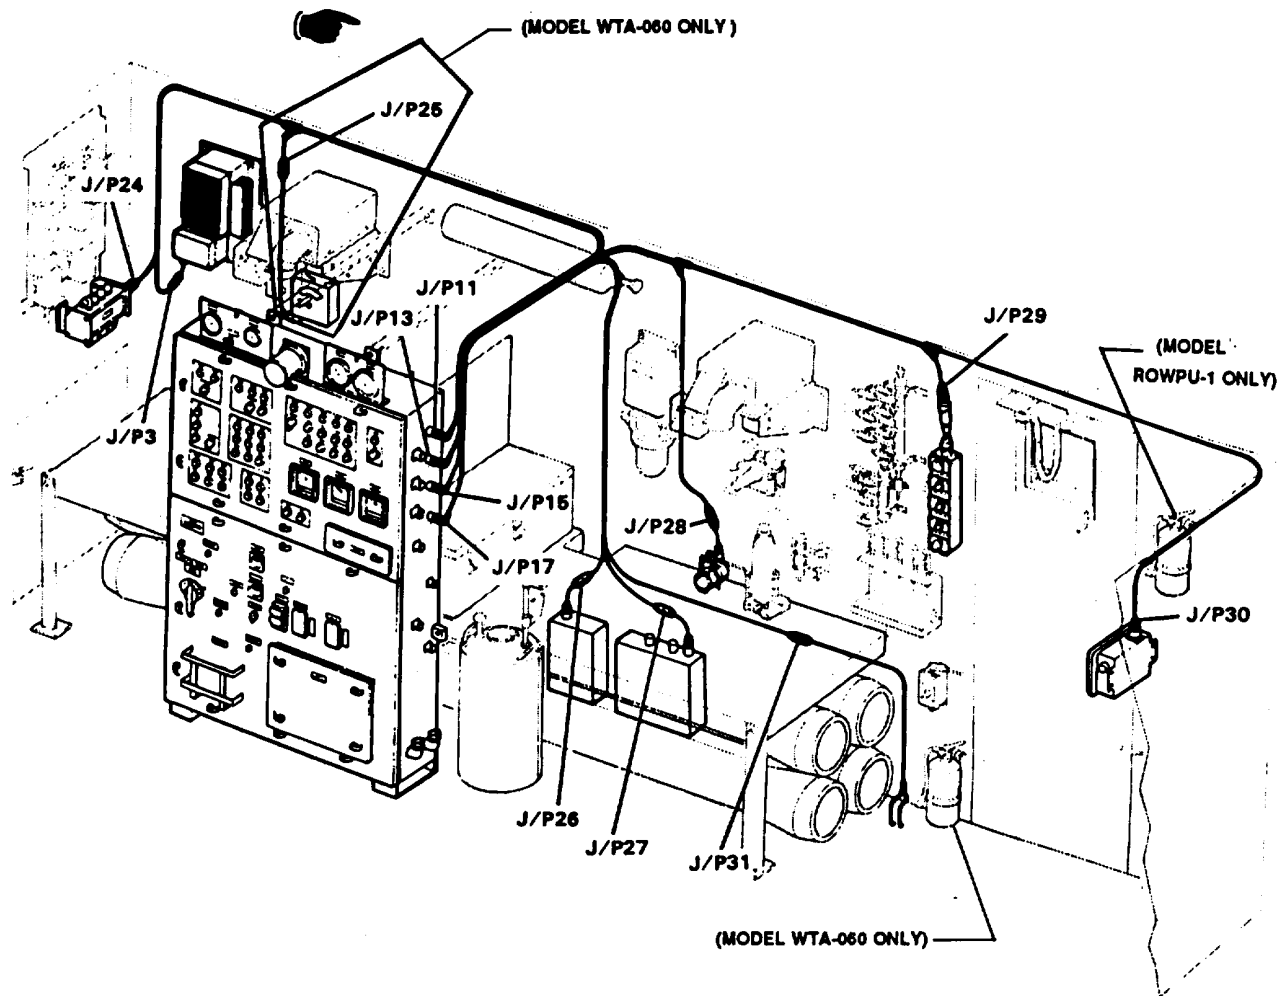

Figure 4-29. Electrical Installation (sheet I of 8) Primary Harness, Rear Wall, W-33
- d. If a cable clamp must be repaired, refer to the typical cable clamp illustration (Figure 4-29, sheet 2, View A) and disconnect the cable as follows:
- (1) Remove locknut (1), screw (2) and washers (3).
- (2) Slide clamp (4) out of channel (5) and remove clamp (4) from the cable to be removed.
- (3) Do not remove channel(5) unless necessary. If necessary, remove capscrews (6), lockwashers (7) and washers (8).
- f. Refer to Figure 4-29, sheet 3, View, B and remove the 24 VDC input power cable as follows:
- (1) Remove cable tie wraps and disconnect cable (4) at the power supply on the ROWPU wall.
- (2) Remove nuts (1).
- (3) From outside the ROWPU, remove four screws (2) and dust cover (3).
- (4) Pull cable (4) into the ROWPU. Gasket (5) will now be free.